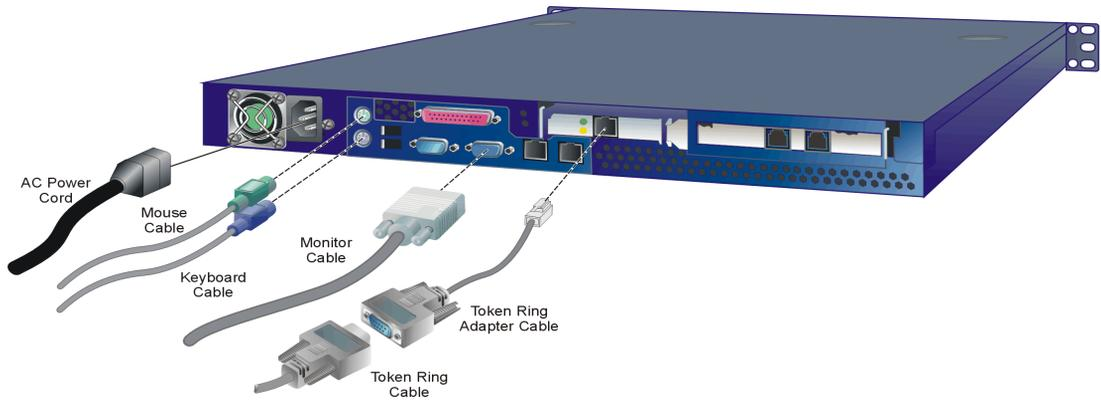

Figure 1 5900 or 4900 ESCON Server Connections
3. As shown in Figure 1, connect peripheral cables to the monitor (blue VGA), keyboard (purple), and mouse (green) connectors at the rear of the server.
4. As shown in Figure 1, connect the 8-inch token ring adapter cable to the RJ-45 connector on the token ring adapter card installed in the *left* card cage at the rear of the server.
7. As shown in Figure 1, connect the CPU power cord to the server and to a facility power source that provides single-phase, 90 to 264 VAC current.